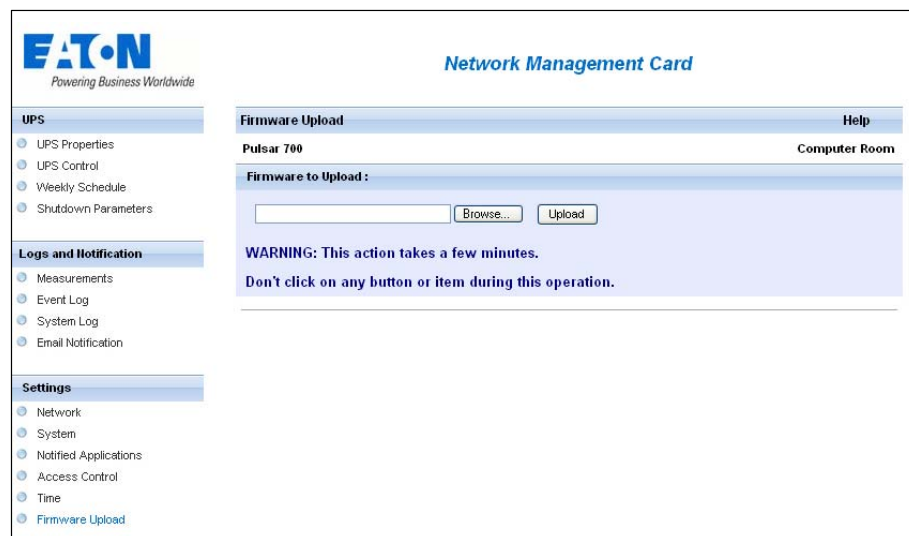

Figure 52. Firmware Upload Page
2. Click **Firmware Upload** from the menu bar to open the Firmware Upload page (see Figure 52).